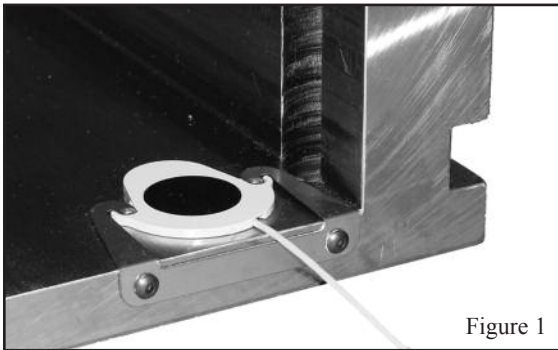

Figure 1
- with the mounting clip from the side of the mold base (Fig. 1)
6. When using the Mounting Clip, slide the Thinswitch under the clip as shown in Figure 1. Switch should snap securely into place.